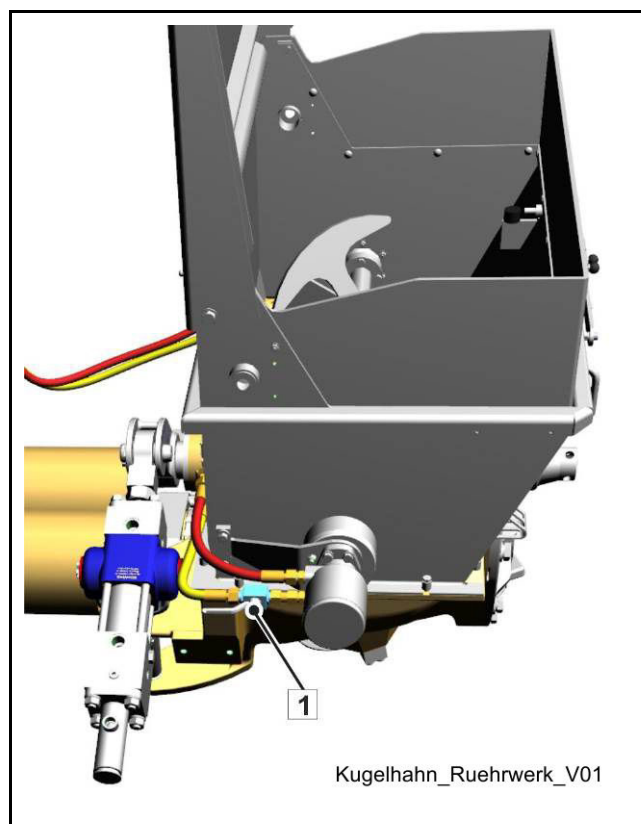

Fig. 278
- To do this, close the ball valve (1) (**Fig. 278**) on the agitator motor.